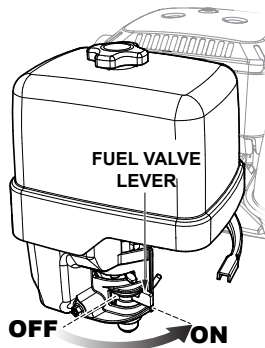

Figure 12. Fuel Valve Lever (ON)
1. Place the fuel valve lever (Figure 12) in the **ON** position.